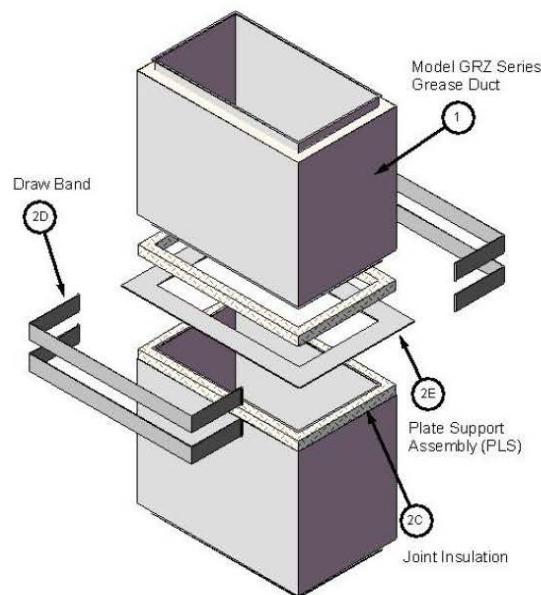

Figure 3. Plate Support Assembly (PLS)
- B. VERTICAL SUPPORTS – Reference Figures 3, 4, and 5. Where the Pre-Fabricated Grease Duct (Item 1) is installed vertically, use the Plate Support Assembly (PLS), Flange Support Assembly (FSA), and/or Wall Brackets (WBR) as specified below.
- ii. PLATE SUPPORT ASSEMBLY (PLS) – Secure the Pre-Fabricated Grease Duct (Item 1) sections joined with the PLS (reference Figure 3) to the supporting construction (supplied by others). Ensure the PLS is supported continuously on all sides. Fasten the PLS to the supporting construction at